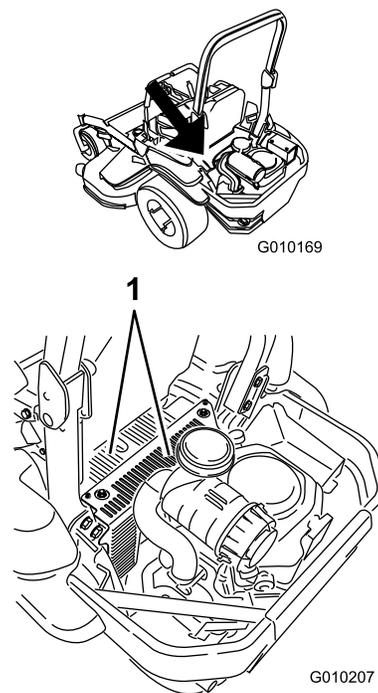

Figure 72
5. Clean the debris and grass from the hydraulic-unit shrouds (Figure 72).